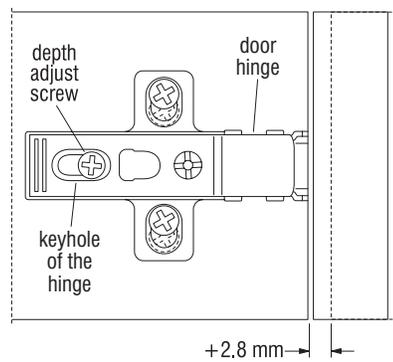

Figure 4 - Door Depth Adjustment
2. For **door depth adjustment**, first loosen the depth adjust screw, then slide the key hole of the hinge to the desired location. Re-tighten the screw (Figure 4).